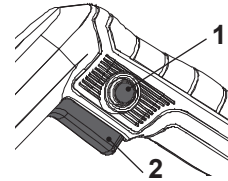

Fig. 6
1. Press the lock-off button (1) and hold it in position.
2. Press the on/off switch (2) to switch the product on (Fig. 6).
3. Release the on/off switch (2) to switch the product off.